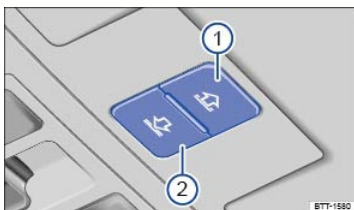

Fig. 110 In the roof console: Buttons for the power sunshade.
- Press the button → Fig. 110 within about 5 seconds after the sunroof has stopped and hold it at the second detent until the power sunroof closes completely.